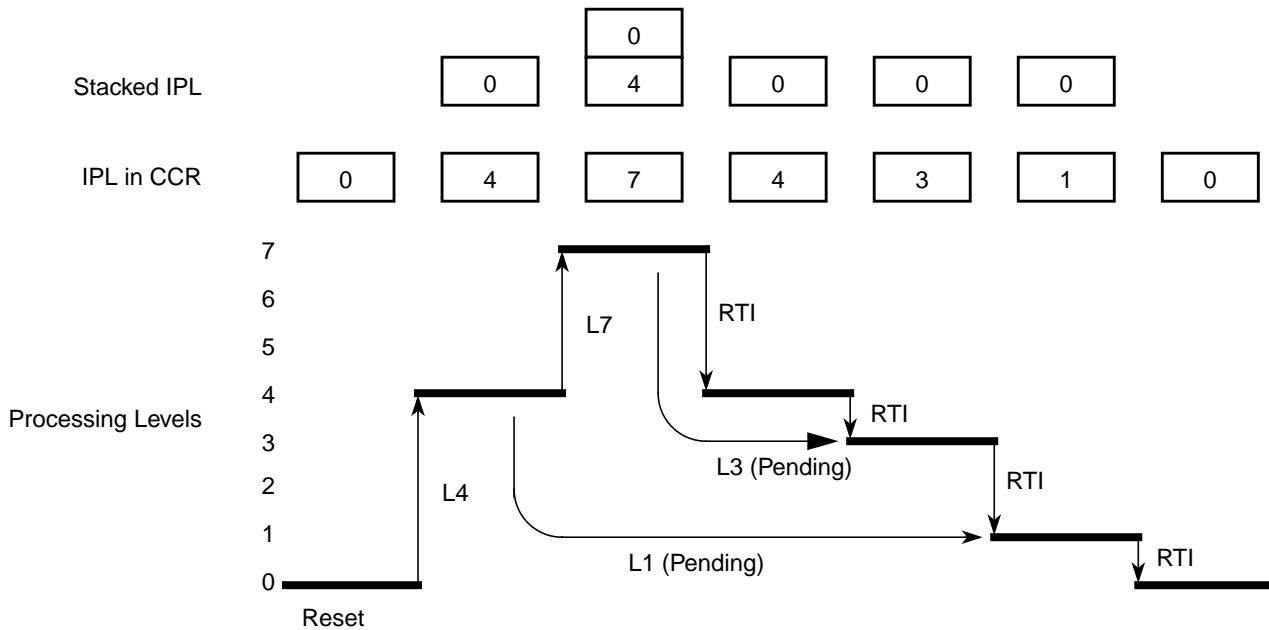

Figure 20-14. Interrupt Processing Example
- I bit maskable interrupt requests can be interrupted by an interrupt request with a higher priority, so that there can be up to seven nested I bit maskable interrupt requests at a time (refer to Figure 20-14 for an example using up to three nested interrupt requests).